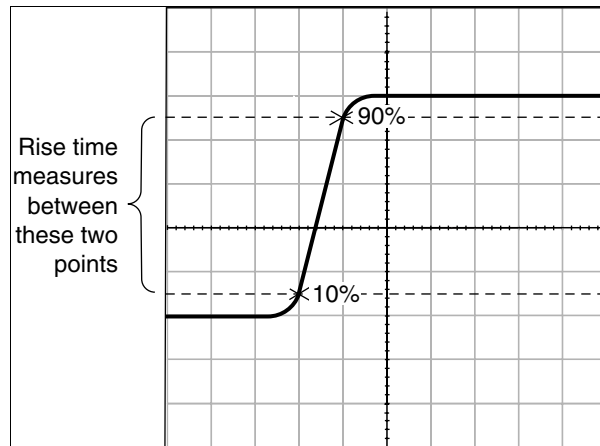

Figure 6-23. Edge Rise Time
2. Change the vertical scale of the DSO to the value listed in the table. Adjust the main time base position and vertical offset until the edge signal is centered on the display. Record the rise time measurement in column A of Table 6-56. Refer to Figure 6-23.